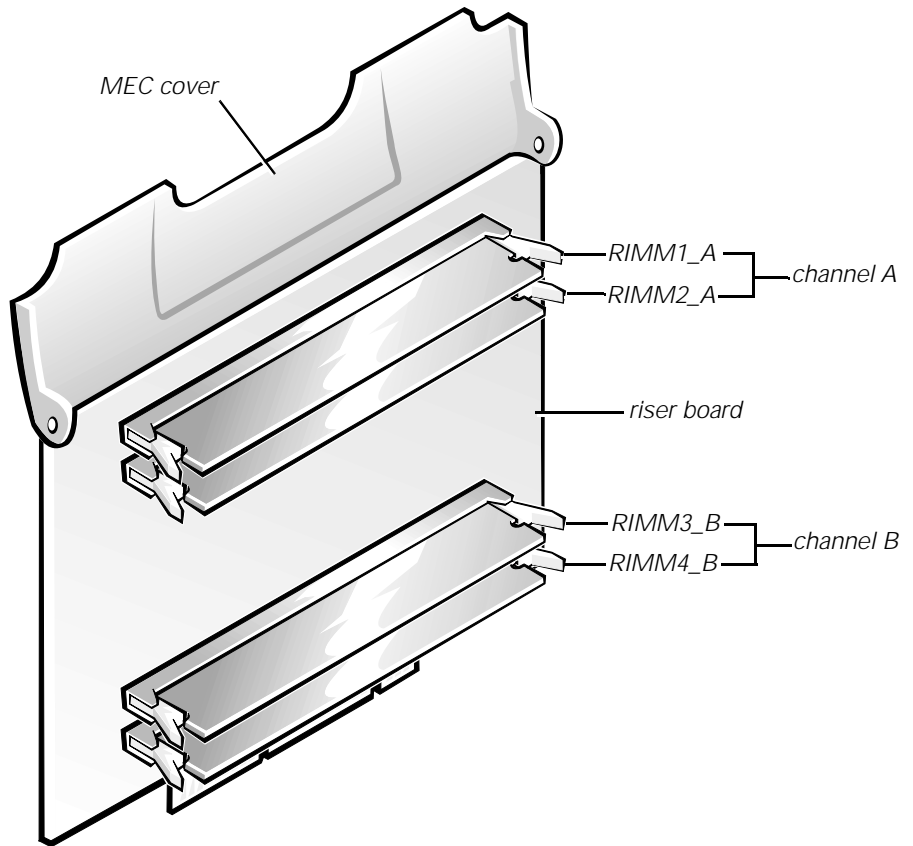

Figure 1. RIMM Socket Designations
Figure 1 shows the RIMMs and RIMM sockets.
As an example, if you install only one pair of RIMMs in the RIMM1_A socket of each MEC, then you must install a CRIMM in socket RIMM2_A of each MEC. Channel B (sockets RIMM3_B and RIMM4_B) may remain empty, or it may contain one or two CRIMMs per MEC (see Figure 1).
5. To lift the MEC from the system board, rotate the MEC cover up and remove the MEC from the computer (see Figure 1).